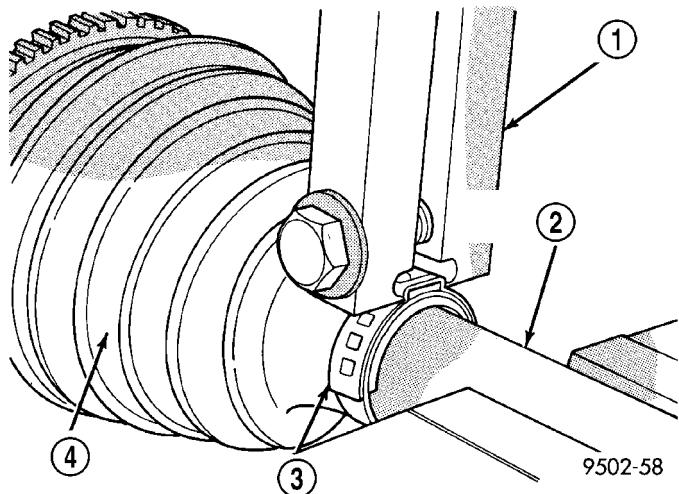
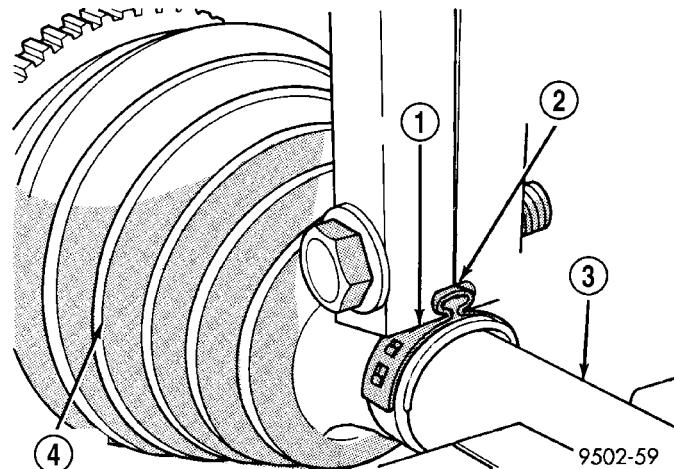

Fig. 52 Crimping Tool Installed on Sealing Boot Clamp
Fig. 53 Sealing Boot Retaining Clamp Installed
(5) Distribute 1/2 the amount of grease provided in seal boot service package (DO NOT USE ANY OTHER TYPE OF GREASE) into outer C/V joint assembly housing. Put the remaining amount into the sealing boot.
(6) Install outer C/V joint sealing boot to interconnecting shaft clamp evenly on sealing boot.
(7) Clamp sealing boot onto interconnecting shaft using crimper, Special Tool C-4975-A and the following procedure. Place crimping tool C-4975-A over bridge of clamp (Fig. 52). Tighten nut on crimping tool C-4975-A until jaws on tool are closed completely together, face to face (Fig. 53).